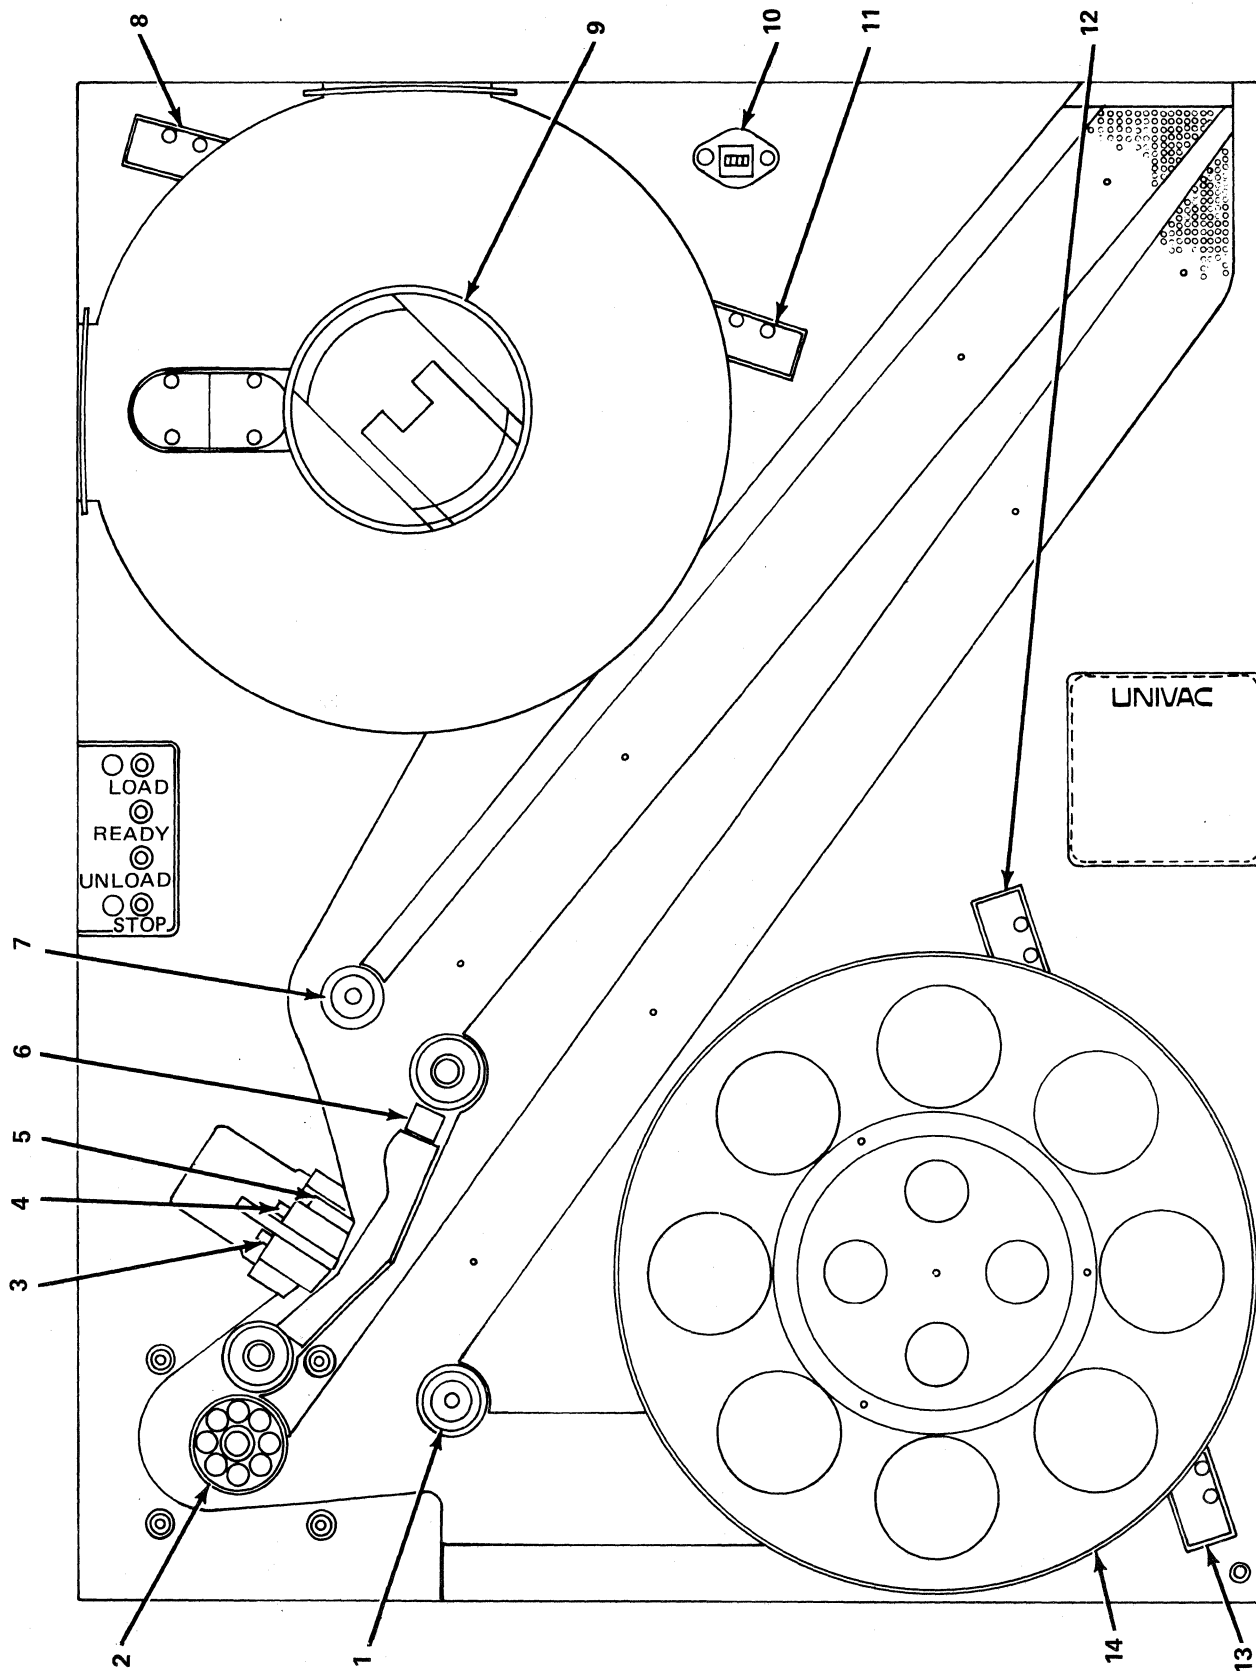

Figure 5-3. MTT, Front View, Cover Removed
STEP 6. Using a rocking motion, gently remove plug connected to write head (item 1, figure 5-3, table 5-2).
TABLE 5-2. LEGEND FOR FIGURE 5-3